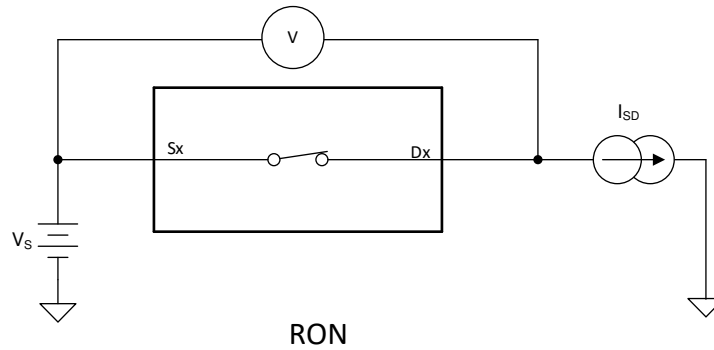

Figure 7-1. On-Resistance
The on-resistance of a device is the ohmic resistance between the source (Sx) and drain (D) pins of the device. The on-resistance varies with input voltage and supply voltage. The symbol  $R_{ON}$  is used to denote on-resistance. Figure 7-1 shows the measurement setup used to measure  $R_{ON}$ . Voltage (V) and current ( $I_{SD}$ ) are measured using the following setup, where  $R_{ON}$  is computed as  $R_{ON} = V / I_{SD}$ .